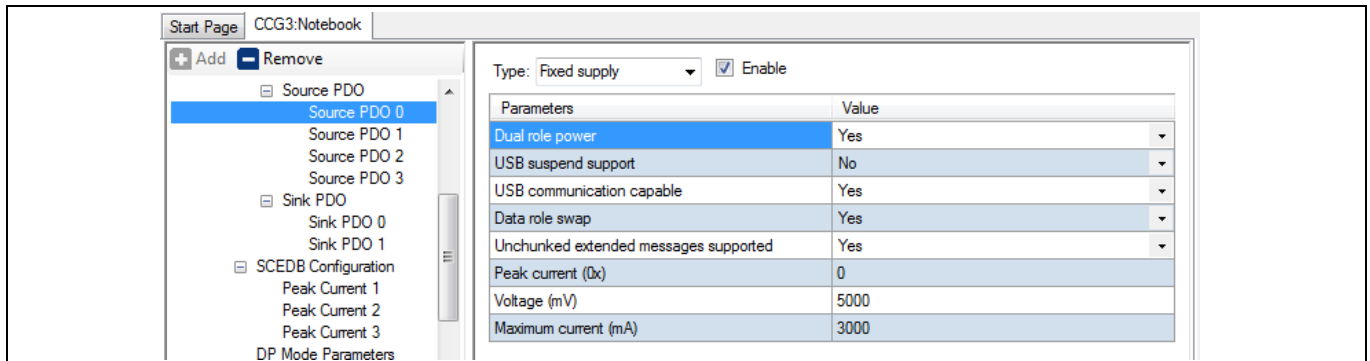

Figure 28 Configuring source PDOs
**Figure 27** and **Figure 28** show the configuration screens used to set the properties of PDOs. All fields listed under Source and Sink PDOs are defined in the USB-PD specification. For more details, see the specification.